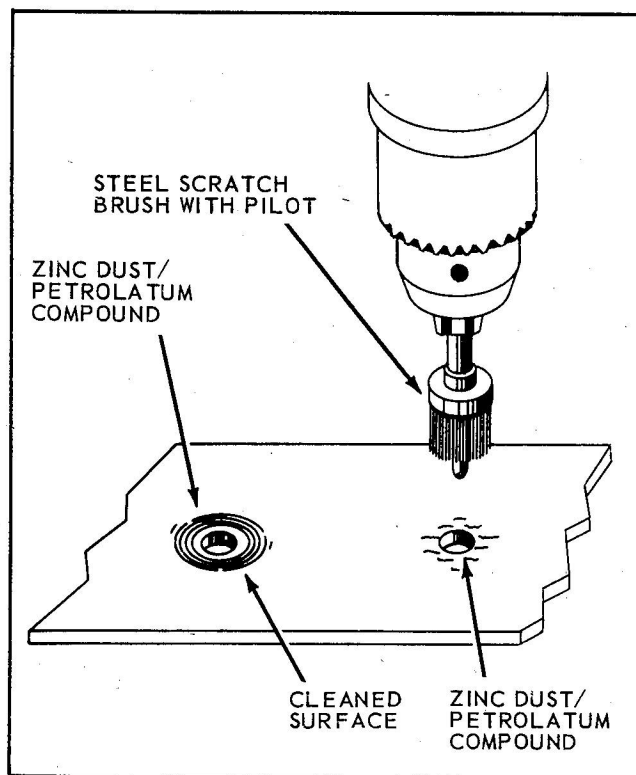

Figure 8-1. Scratch Brushing Unplated Aluminum Alloy Bus Bars
b. Scratch brush the coated areas, using a rotary steel wire brush with a pilot as shown in Figure 8-1. Brush through the compound.